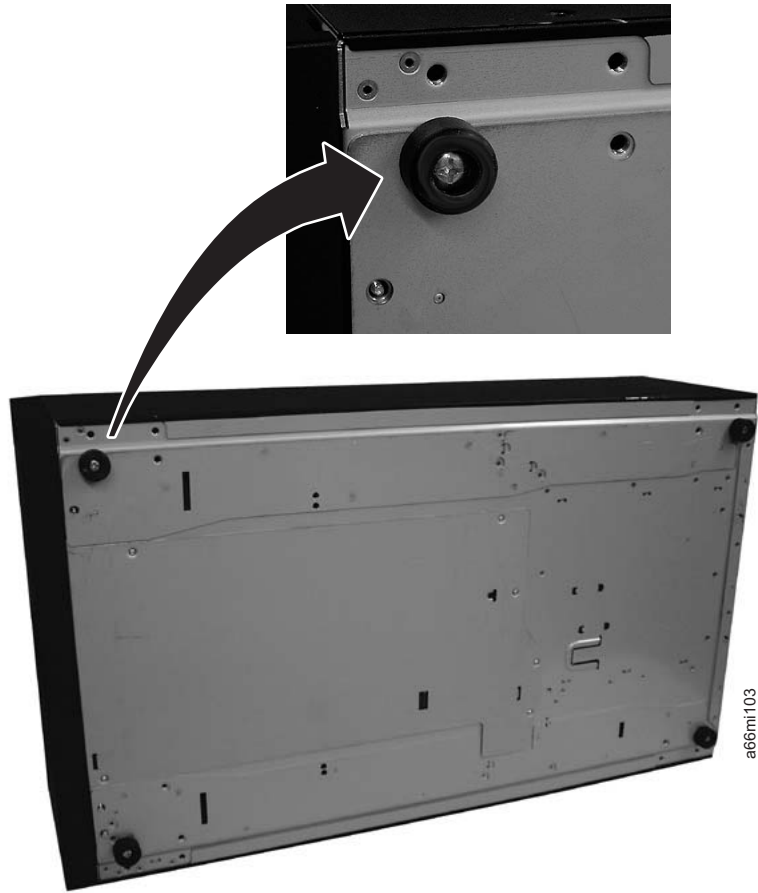

Figure 3-10. Foot pad Locations
3. Using a #2 Phillips screwdriver, install the foot pads on the bottom of the library chassis. See Figure 3-10 on page 3-11 for foot pad locations.